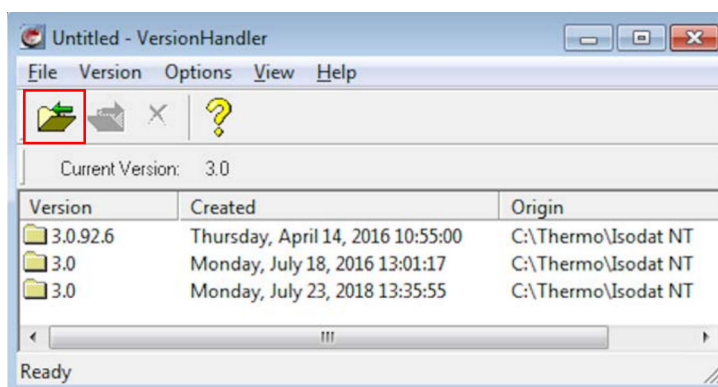

Figure 3-2. Version Handler
4. The Version Handler appears listing prior backups, see Figure 3-2.